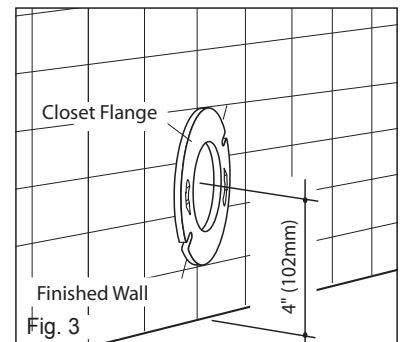

Fig. 3
1. It is essential for the installation of the Sydney Smart Back Outlet two piece washdown toilet that the closet flange be accurately set out on the finished wall as detailed in Fig.3.